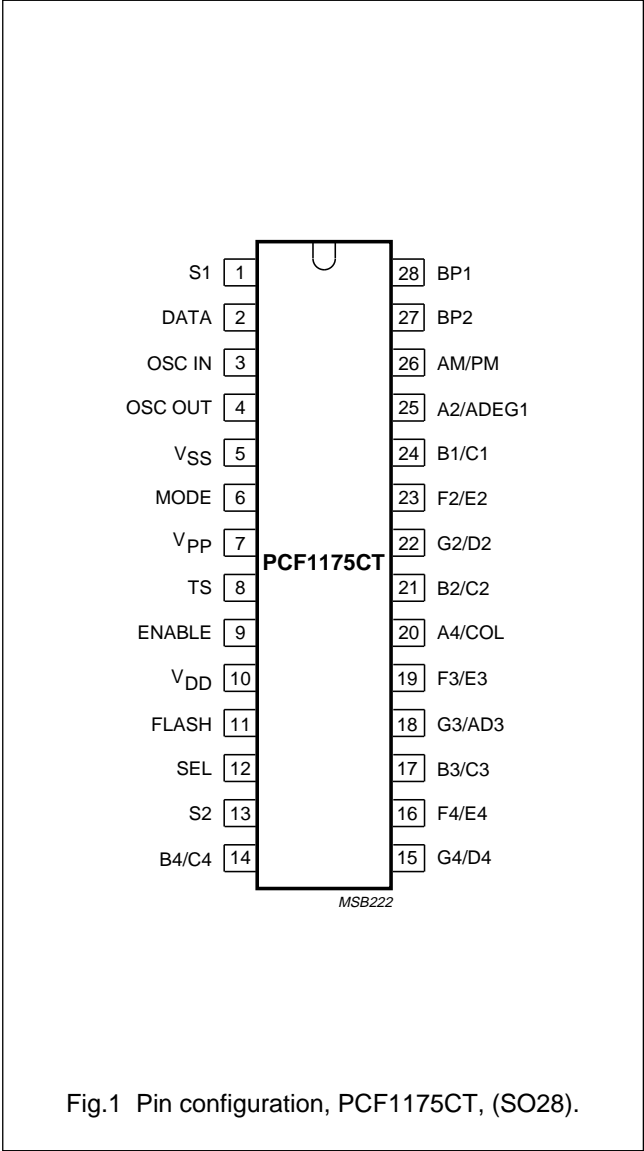

Fig.1 Pin configuration, PCF1175CT, (SO28).
1. See Fig.1 and Chapter "Package outline" for pin layout and package details.